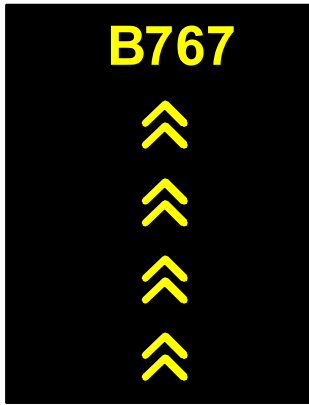
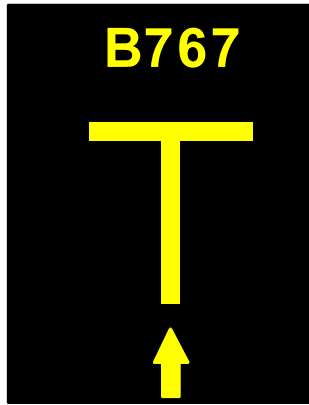
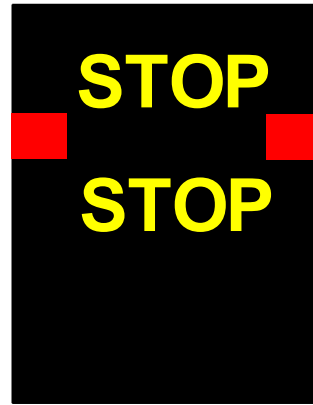

Fig.1
Fig.2
Fig.3
3.1.1 Before the aircraft approaches the parking bay the marshaller enters the type of aircraft into the system and it is displayed on the LED screen (Fig 1). When the aircraft turns into the parking bay and the system starts tracking the aircraft, and the laser scanner identifies the type of aircraft.
3.1.2 If the laser unit detects that the type of aircraft corresponds to the type entered into the system, the docking system will continue to function normally (Fig 2). If the laser unit detects a discrepancy in the type of aircraft or cannot identify the aircraft, the message 'STOP' will be displayed on the LED screen (Fig 3).
3.2.1 When the system is activated by the marshaller the laser automatically scans the pre-defined docking area in the parking bay to detect the arriving aircraft (Fig 1). When the aircraft is approximately 80 metres from the correct parking position the laser starts tracking the aircraft and displays information on the lateral position of the aircraft relative to the parking centreline. An arrow represents the location of the aircraft (Fig 2). The system continues to track the aircraft to the 'STOP' position.